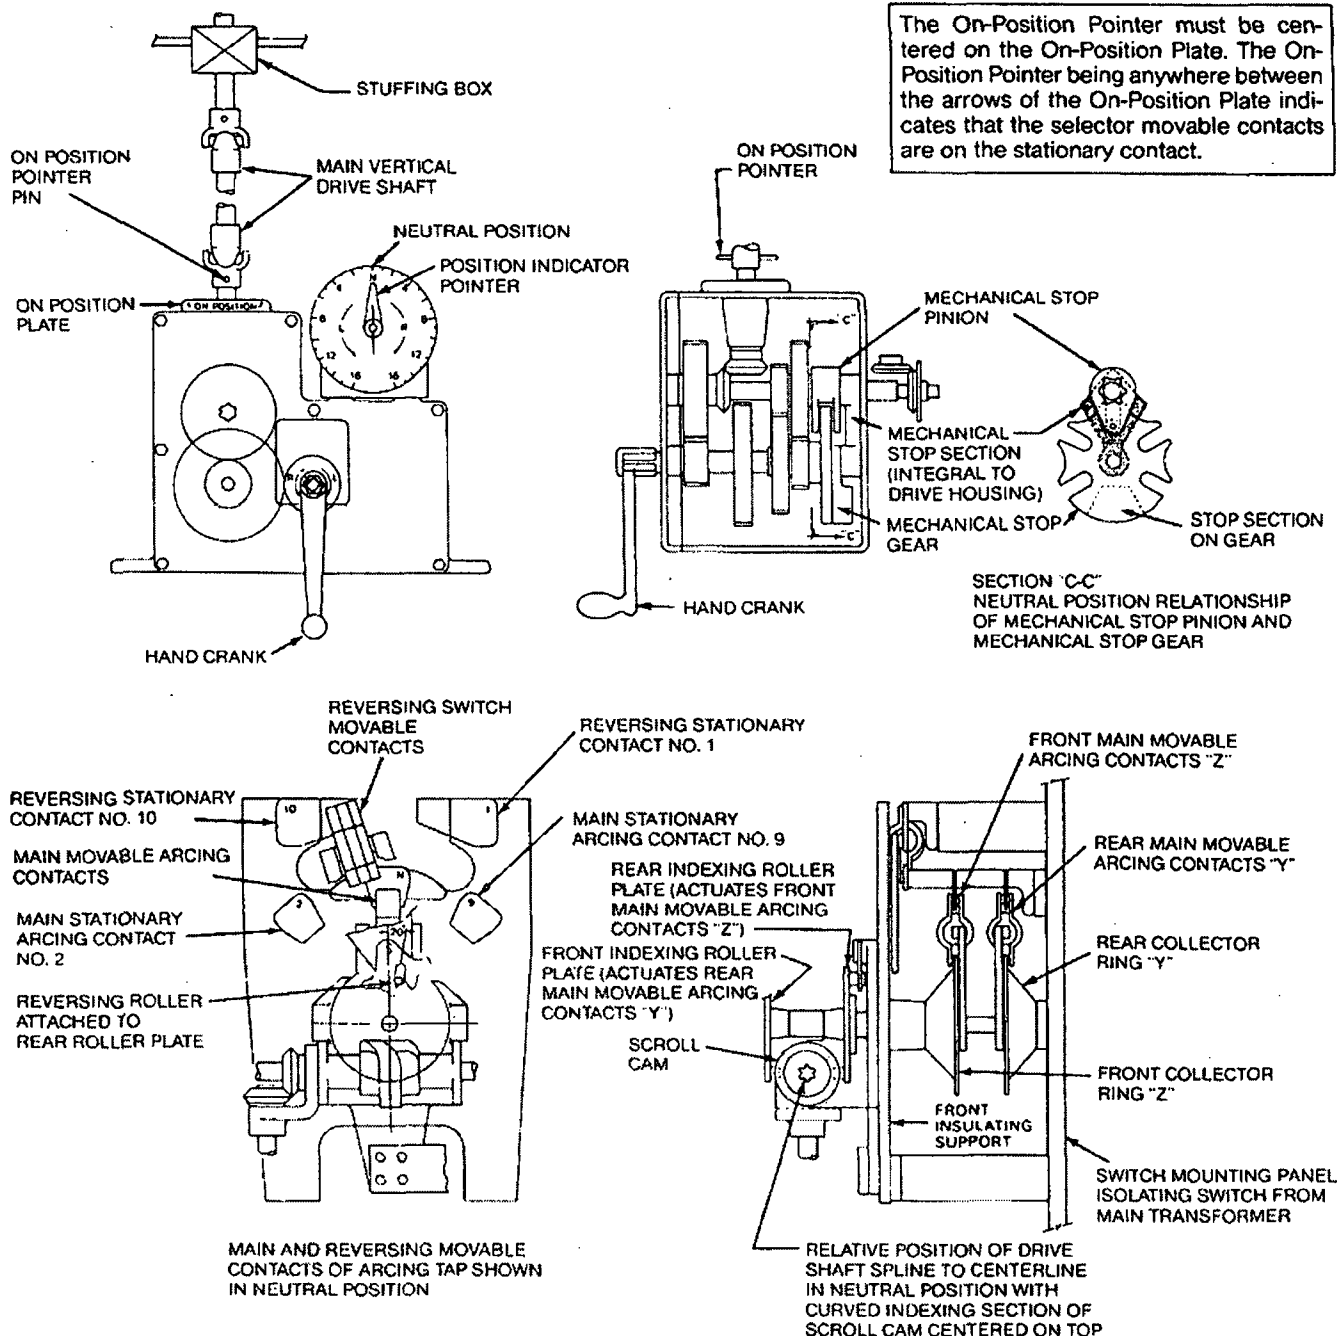

Figure 8.
This neutral-position relationship is established when the position indicator is on N (neutral) and the ON-POSITION POINTER of the drive mechanism is centered on the ON POSITION plate. Refer to Figure 8. The following other neutral-
- B. By ON-POSITION pointer (see Figure 8). Normally the ON-POSITION pointer is centered on the ON-POSITION plate at the completion of a tap change.